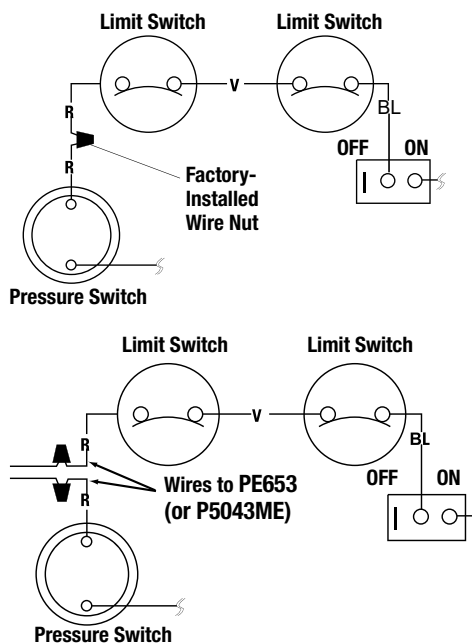

Figure 6-5. Typical wiring connections for Hayward® Heaters.
7. Wire nut the two heater wires from receiver (or expansion module) to the two red wires of the heater. See Figure 6-5.